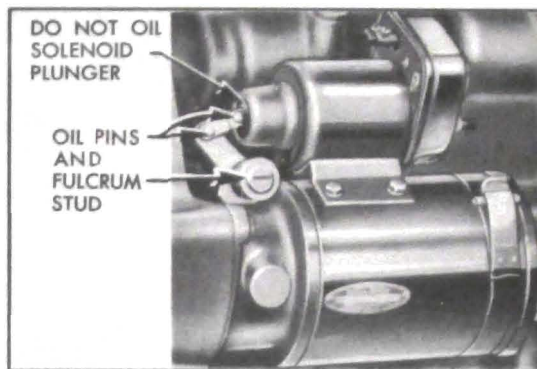

Figure 1-4—Cranking Motor
6. **Cranking Motor (Starter).** Apply a few drops of engine oil to the link pins and fulcrum stud of shift yoke. WARNING: *Do not oil solenoid plunger.* See figure 1-4.